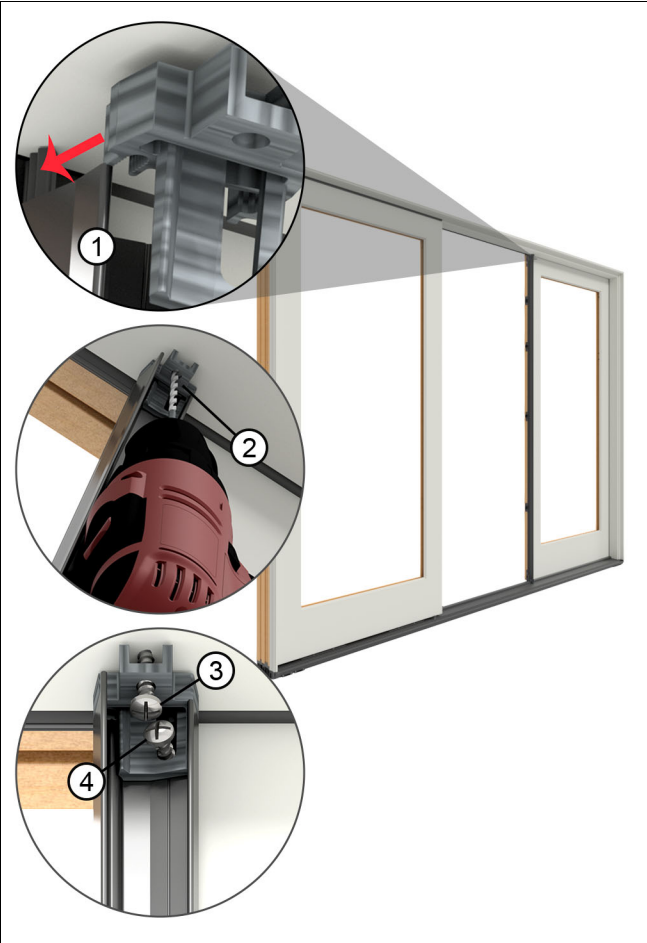

Figure 40
19. Install the head jamb mull end bracket. Slide the bracket into place above the mull base. Pre drill into the surface of the part stop cladding with a 1/8" drill bit and fasten with #8 x 1 7/8" screws into the head jamb frame. Fasten to the panel with one #8 x 1 1/4" screw. Note that the screw goes in at a slight angle at the end of the slot. See Figure 40.